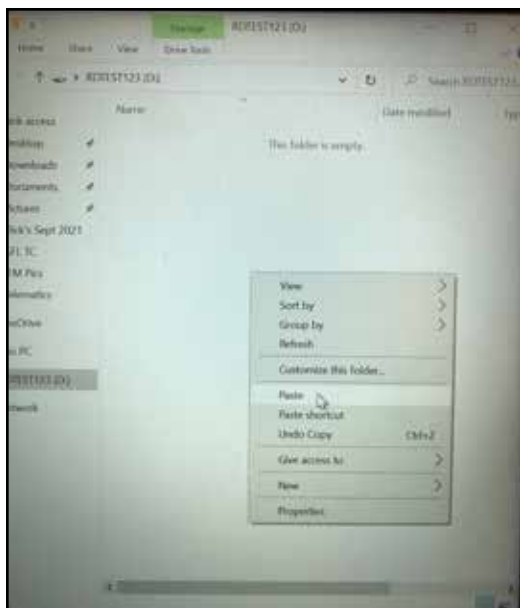

Figure 9
- Open the new jump drive. Right click and select "Paste" in the window. See Figure 9.